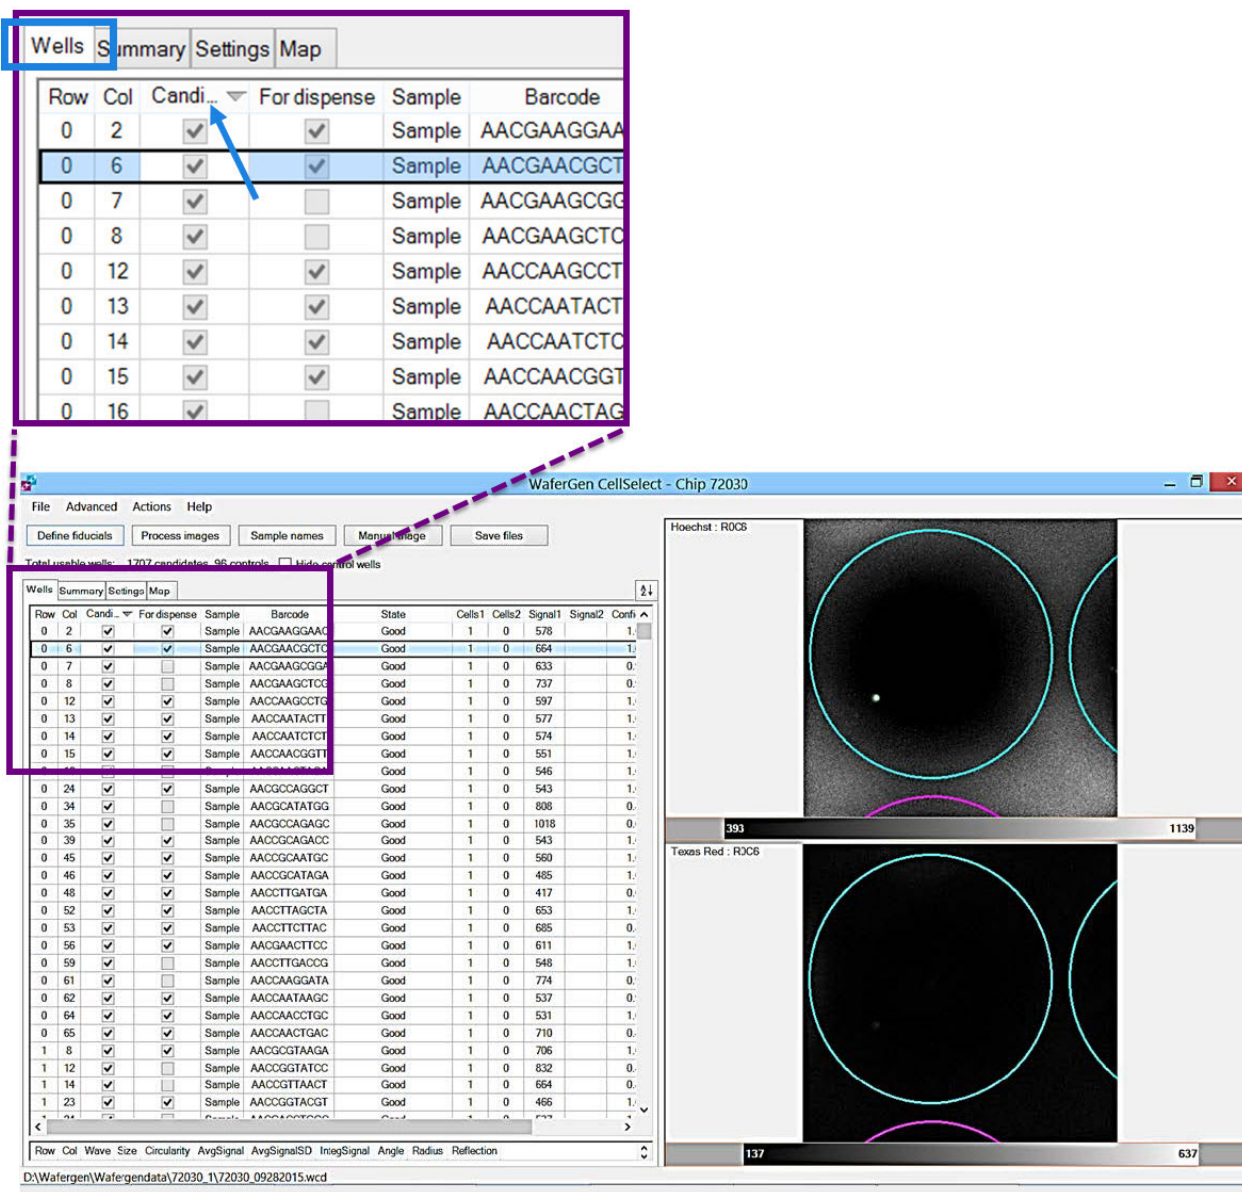

Figure 36. Sorting the candidate column to consolidate all selected nanowells to the top of the table.
- Click the *Wells* tab and sort the nanowell statistics in the “Candidate” column by clicking the row heading (see Figure 36, below). The software will sort and consolidate all selected nanowells (i.e., “candidates”) to the top of the table.
- If desired, manually inspect the selected nanowells. Click any row for closeup views of the selected nanowell in both the Hoechst and Texas Red channels (top and bottom single-well images, respectively, in Figure 36, above).